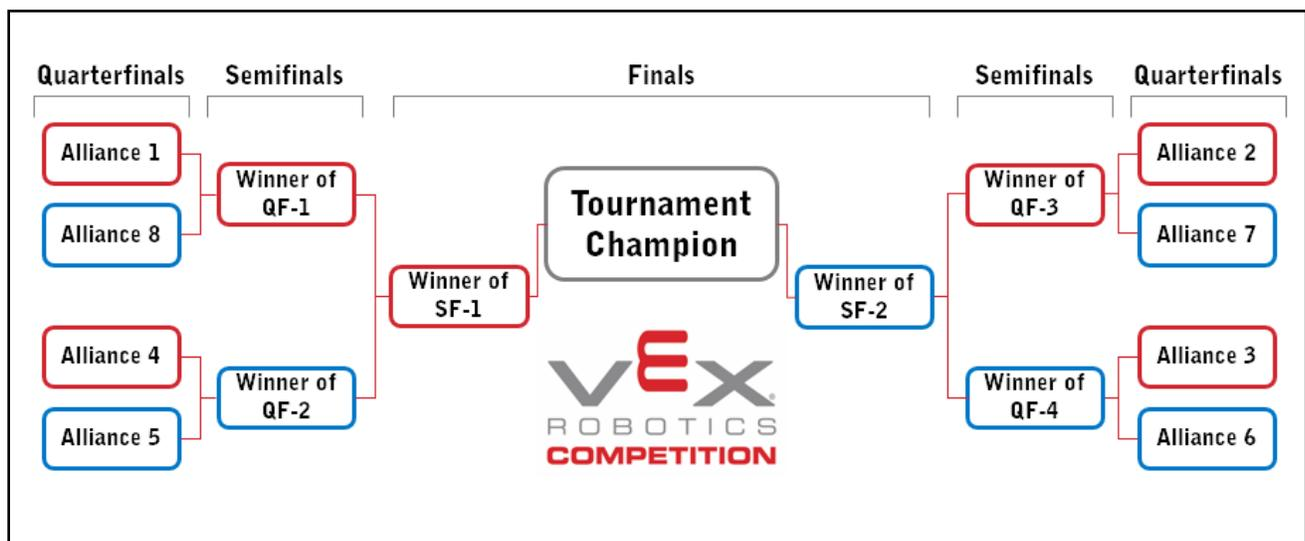

Figure 28: An 8-alliance bracket
Thus, an eight (8) *Alliance* bracket would run as shown in Figure 28, bypassing the Round of 16:
**<T19> Small tournaments may have fewer Alliances.** Events (or divisions within an event) with 32 or more *Teams* must use 16 two-*Team Alliances* for *Elimination Matches* as shown in Figure 28. Events with fewer than 32 *Teams* (i.e., the requisite amount for 16 full *Alliances*) must limit the number of *Alliances* by dividing the number of *Teams* by two, less any remainder.